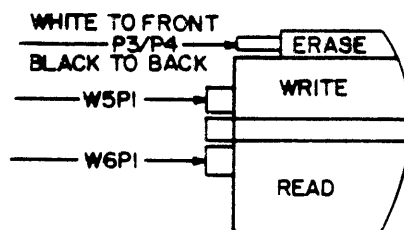

Figure 6-20. MAGNETIC HEAD CONNECTORS
5. From front of tape deck, attach read, write and erase connectors to magnetic head (see Figure 6-20). Remove recording surface covering.